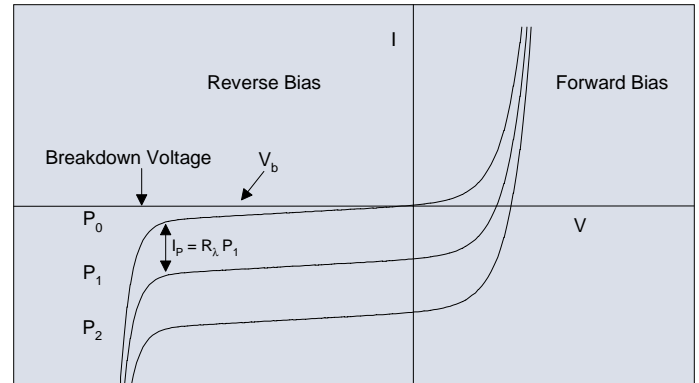

Figure 8. Characteristic IV Curves of a UDT photodiode for PC and PV modes of operation. P_0 - P_2 represent different light levels.
This relationship is shown in figure 8. From equation 7, three various states can be defined:
- $V = -V$, When a reverse bias is applied to the photodiode, the current behaves as shown in figure 8.